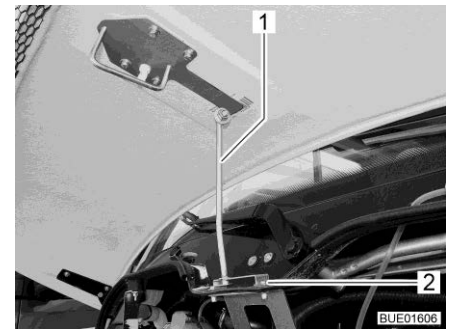

Fig. 40 Bonnet support
- Unfold the support (Fig. 40,1) and attach to the holder (Fig. 40,2).